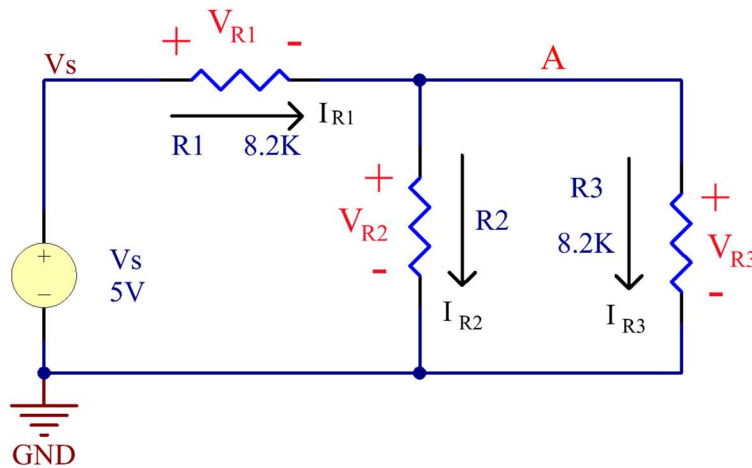

Figure 2
- b) Build the circuit in Fig. 2. Connect the YELLOW Power Supply to R_1 and GND.
Table 1: Measured and Calculated Data for Fig. 2.
Table 2: Calculated Data and Errors for Fig. 2.